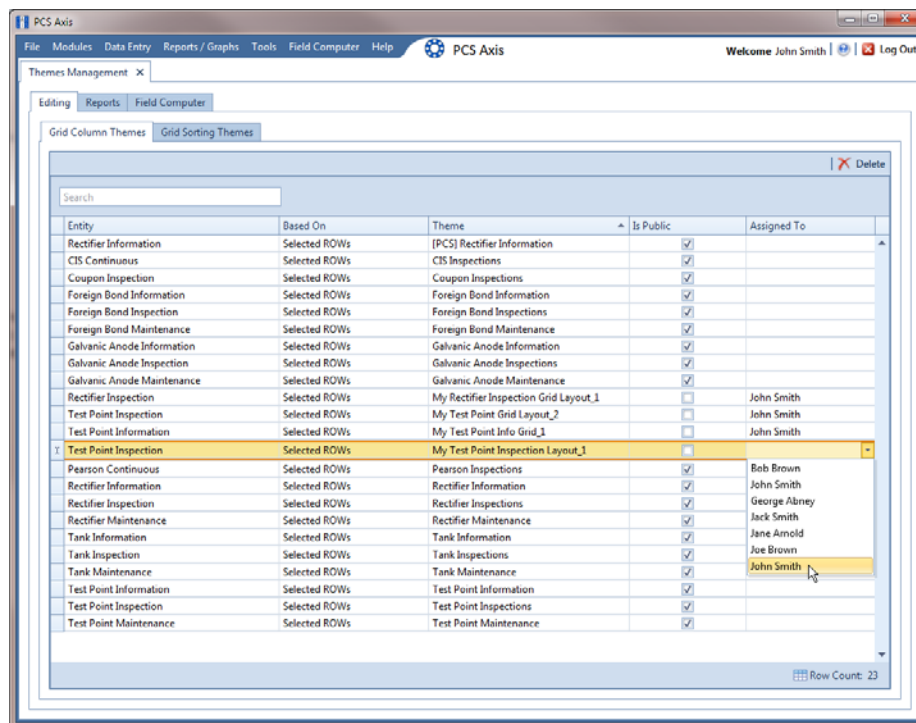

Figure 14-7. Themes Management
- 1 Click **Tools** > **Themes Management** to open the *Themes Management* window (Figure 14-7, page 570).
- a Select a theme in the grid. In the following example, a *Test Point Inspections* theme addition is selected (Figure 14-7, page 570).